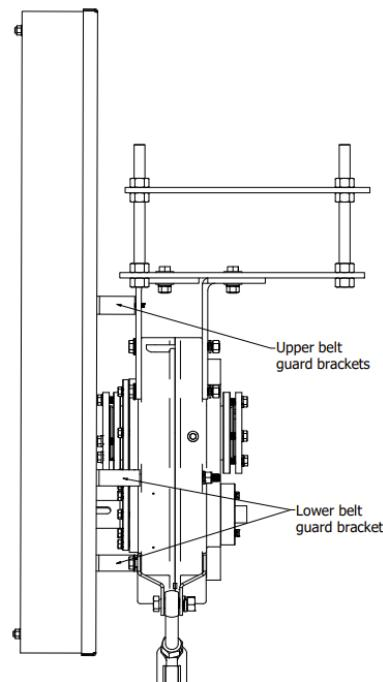

Figure 12: Belt guard mounting positions
1. Remove the belt guard bolts on the reducer (see figures 5-8 above) and loose install the lower belt guard brackets. See Figure 12 for an illustration of belt guard bracket positions.